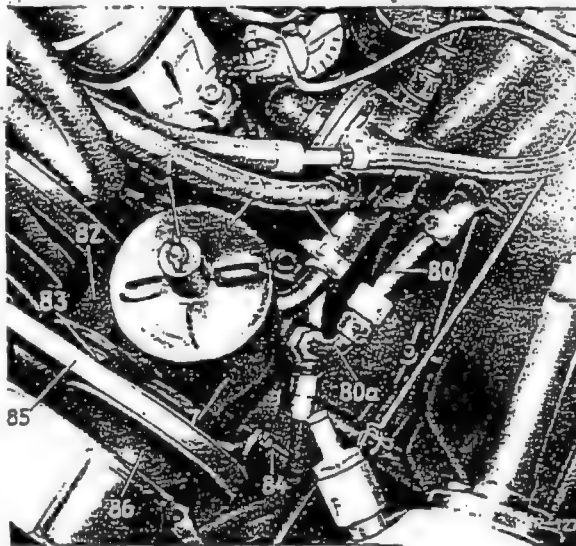

Fig. 46-26/1
1. Unscrew the wing nut (1) on the reservoir (7) and remove the cover together with the gasket. Remove the pressure spring, the baffle plate and the filter element from the reservoir (Figs. 46-26/1 and 46-26/3).
3. Unscrew the hexagon nut from the drive shaft of the high-pressure oil pump, holding the pulley (86) steady at the parallel flat (Fig. 46-26/2).
4. Loosen the hexagon nuts fastening the high-pressure oil pump to the support (82) without, however, unscrewing the nuts completely (Figs. 46-26/1 and 46-26/3).